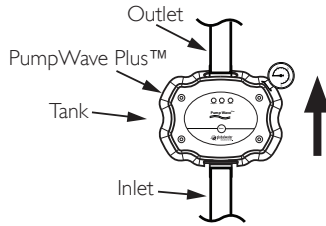

Fig. 1 Flow Direction
Always ensure that the PumpWave Plus™ is installed in a vertical position only. Failure to do so will prevent proper operation! See figure 1.
Before installation: Check that the direction of flow is the one indicated in figure 1 and that there are no outlets between the pump and PumpWave Plus™.
- Check if PumpWave Plus™ is installed as indicated in figures 1 and 2.